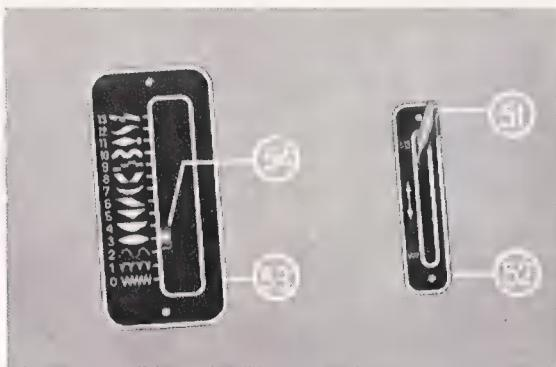

Fig. 63
The lever 51 for zigzag or ornamental stitches is placed at the right-hand side of the top arm (Fig. 63). It projects from the slot in the plate 52. If the machine is to be set for control by the automatic ornamental stitch device, push lever 51 backwards. Reset for zigzag stitches by pulling lever forward.
- b) Push zigzag ornamental stitch lever 51 (Fig. 63) to the back (1-13)
- c) Put ornamental stitch selector 54 to blindstitch pattern (1)